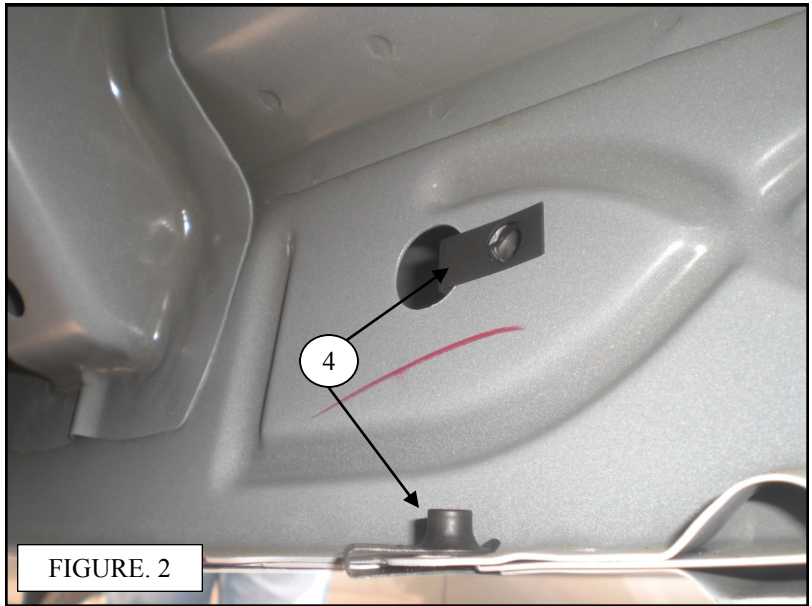

FIGURE. 2
- Starting at the drivers side of the vehicle locate the existing circular hole in the rocker panel towards the front of the vehicle. Remove the rubber plug from the bigger hole to access the smaller OD hole and insert (1 PCS) M8 nut clip over the hole, attach (1 PCS) mounting bracket to the previously installed nut clip using (1 PCS) M8 hex head bolt, (1 PCS) M8 lock washer, and (1 PCS) M8 flat washer. Locate the existing hole in the pinch weld and place (1 PCS) M8 clip nut onto the hole, attach the mounting bracket to the pinch weld using (1 PCS) M8 hex bolt, (1 PCS) M8 lock washer, and (1 PCS) M8 flat washer. Do not fully tighten at this time. *FIGURE 2 & 3*